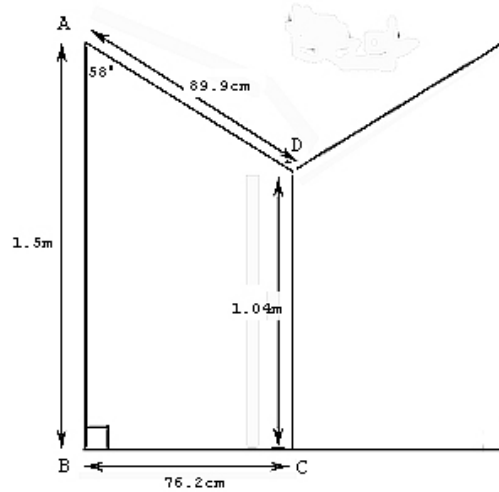

Figure 2
1. Cut two sections - mirror images of one another - to fit on either side of the drum as shown in Figure 2. Dimensions are: 1.5m x 76cm x 1.04m x 90cm (4 ft. 11 in. x 2 ft. 6 in. x 3 ft. 5 in. x 2 ft. 11 in.) Cut side A-D on an angle as shown.